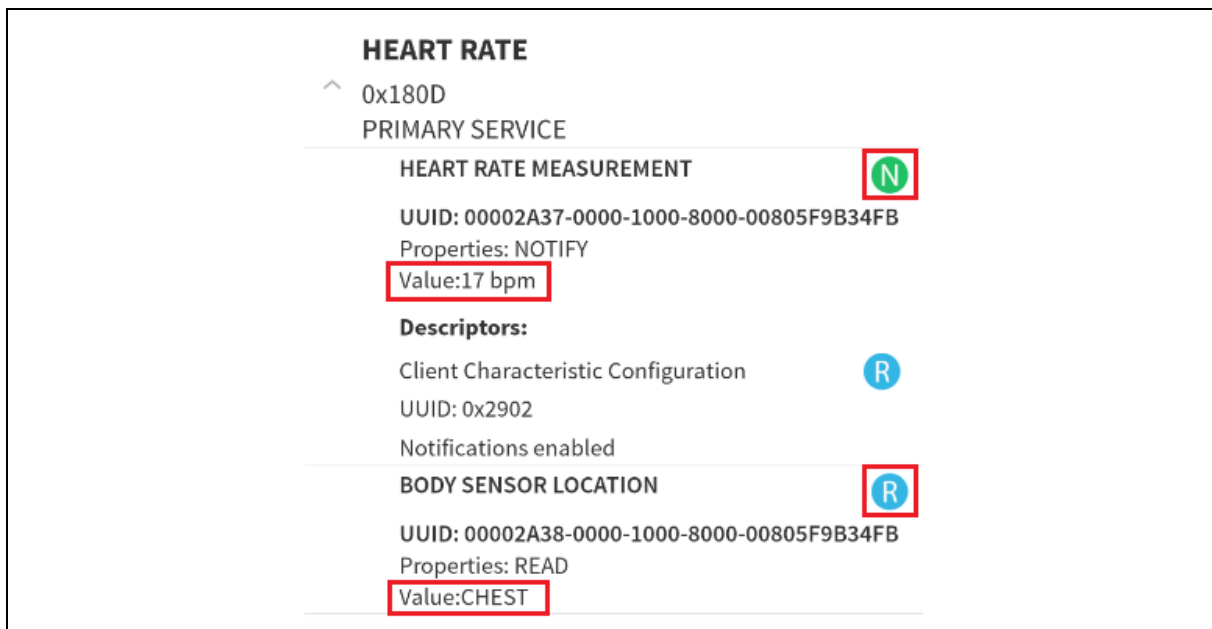

Figure 4-12 Heart Rate Service
3. Click the “HEART RATE” service, and you can see all characteristics. Find the “HEART RATE MEASUREMENT” and click the NOTIFY button, then you can get the heart rate measurement value. Find the “BODY SENSOR LOCATION” and click the READ button, then you can get the sensor location is CHEST, as shown in Figure 4-12.